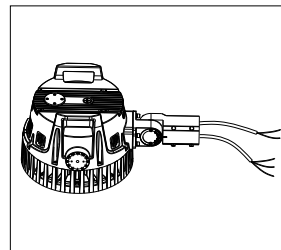

Figure 13
- Install the bracket onto the pole (see Figure 13).